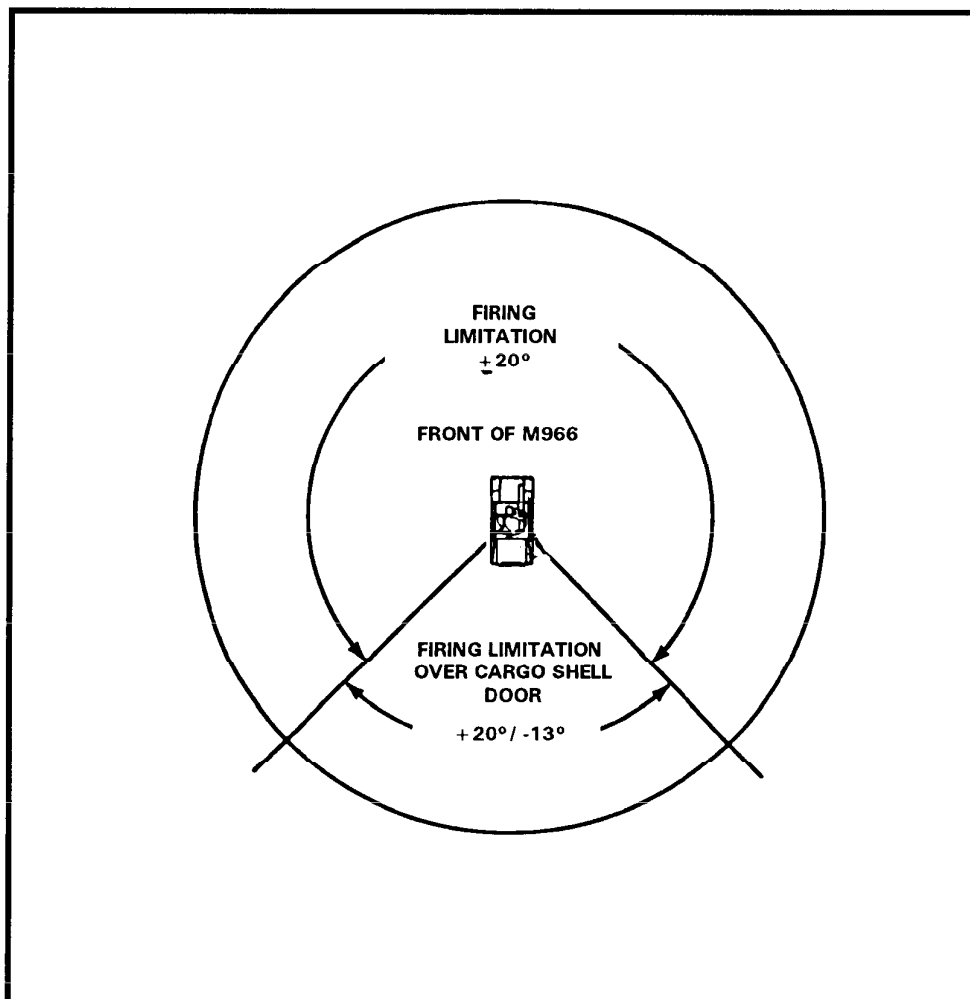

Figure A-2. M966-mounted TOW firing angle limitations.
b. The firing angle limitations of the TOW carriers areas shown in Figures A-2 and A-3, page A-5.